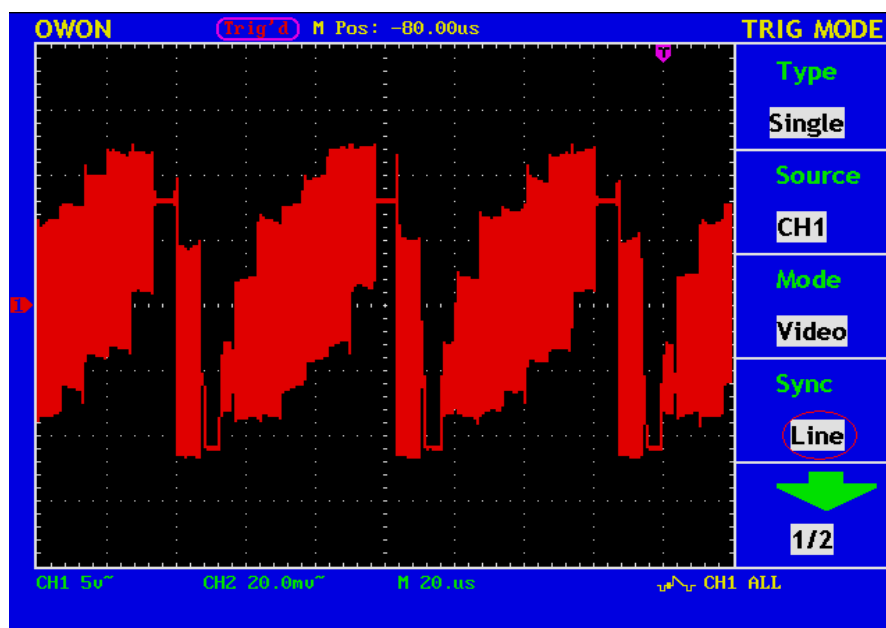

Fig. 48 Video field trigger Oscillogram
- 5、 Press F4 to choose synchronization as“Line” (refer to Fig.48)